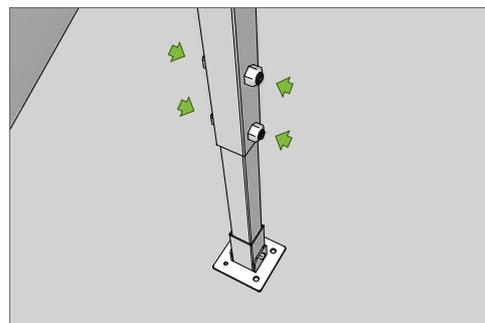

Fig 2
4. Adjust stand angle to desired position by lifting the back of the side section causing the back leg section to telescope. Once at the desired angle, tighten the sliding back legs with the black grub screws (4 per leg) as shown in Fig 2